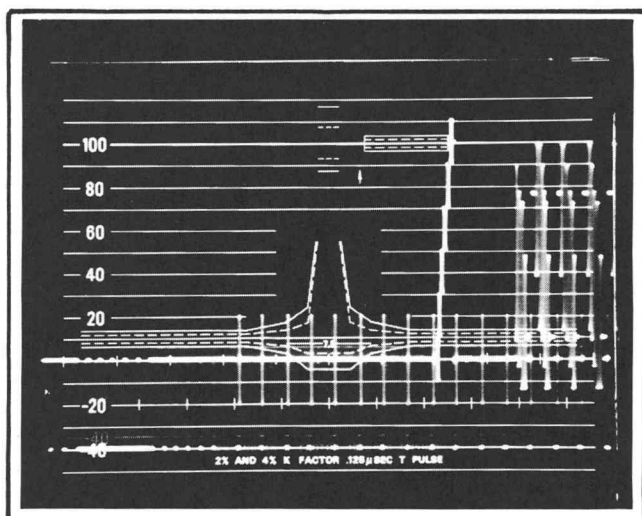

Fig. 2-10. Field blanking interval showing the VITS on line 18.
19. Adjust the display with the Horizontal Position control on the Type RM529 so that the field blanking interval covers the screen. Change the Type R140 VIDEO switch to the up position and note the VITS staircase signal on line 18. See Fig. 2-10. The VITS signal may be put on different lines with the VITS LINE selector. The staircase may be changed to an APL signal by changing the 0° SUB-CARRIER and STEPS switches to the down position and rotating the APL IRE LEVEL switch (modulation can be applied with the 90° SUBCARRIER switch) or to a color bar signal with the VITS SIGNAL switch. The signal may be removed completely with the same switch by placing it in the center OFF position.